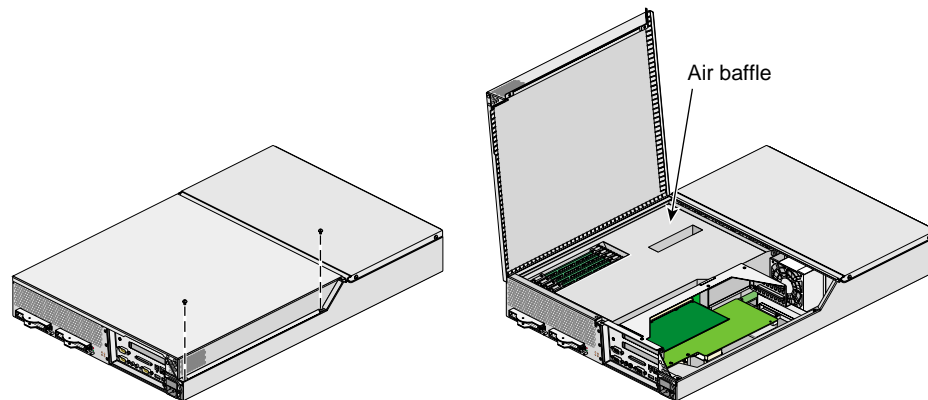

Figure 4-13 Opening Server to Remove DIMM
5. To access the DIMMs, remove the two screws shown in Figure 4-13 and lift and remove the hinged cover.